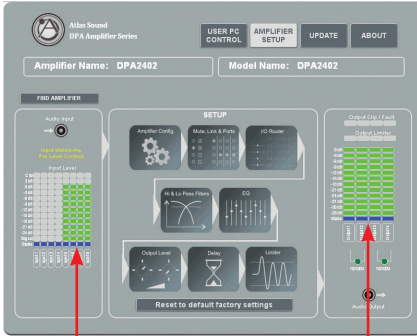
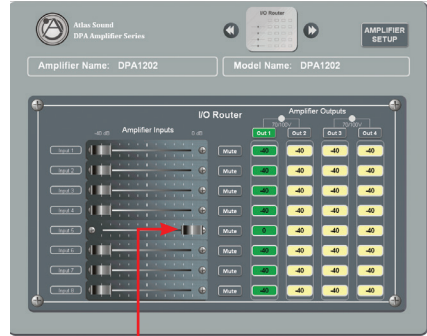

Figure 7
Figure 8
Figure 7 shows input signal on the DPA amplifier Inputs 5-8 (DPA-DAC4 receiver Inputs 1-4). Figure 8 shows the DPA GUI with Input 5 routed to Output 1. **Note:** In order to avoid input clipping from the DPA-DAC4 when high signal levels come from the DSP network output, set the input level to "0" or max. To reduce the amplifier levels, adjust the amplifier output level faders.
2. In the DPA GUI I/O Router page set the input level to 0dB. This is shown in Figure 8
5. Increase the levels until the input meters in the DPA are achieving 0dB. This shown in Figure 7. If the levels are reaching +3dB, adjust the network output levels or the limiter on the DSP.